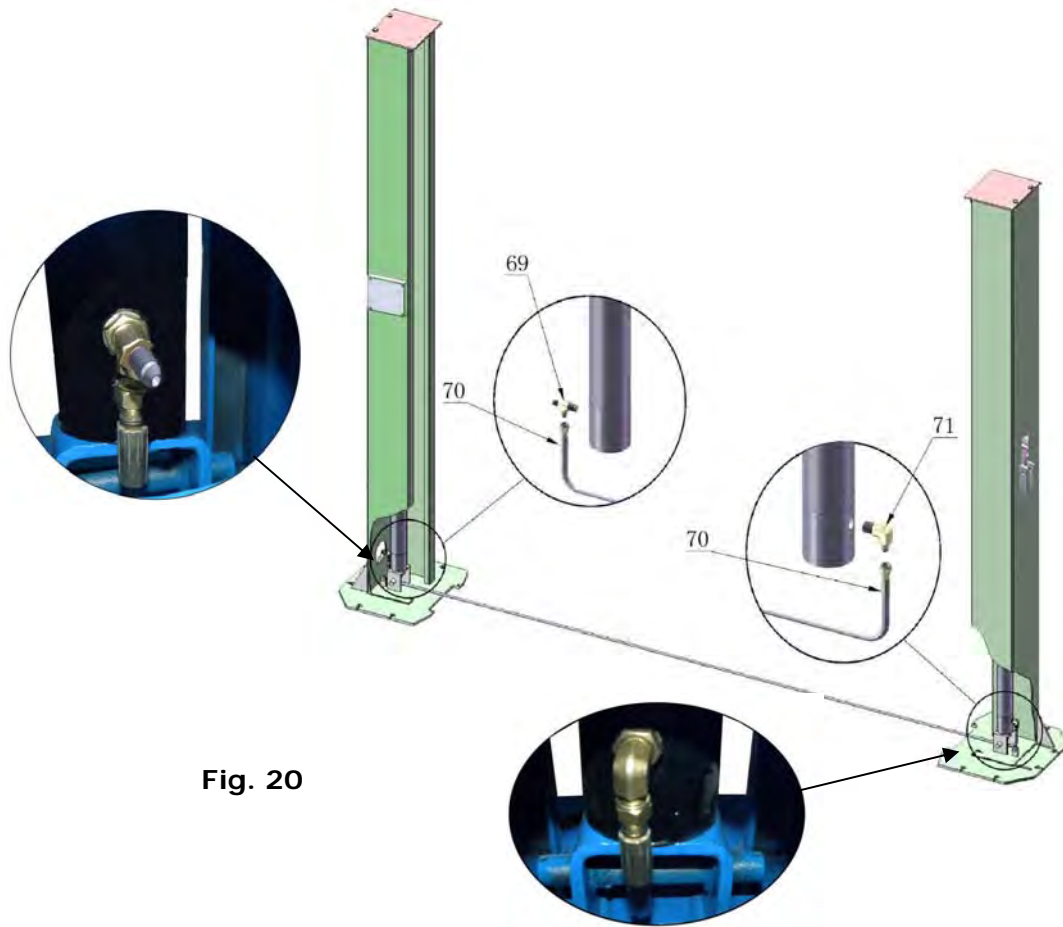

Fig. 20
J. Oil Hose Assembly (See Fig. 20).